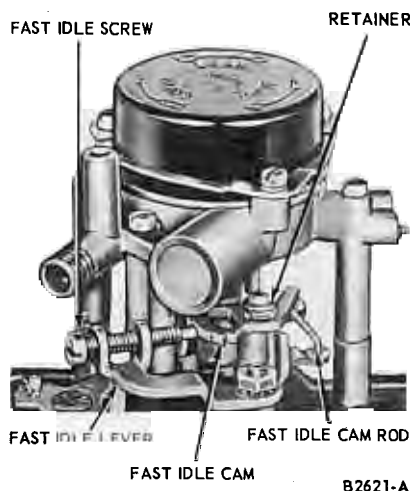

FIG. 15—Fast Idle Cam and Fast Idle Lever
1. Remove the fast idle cam retainer (Fig. 15).
2. Remove the thermostatic choke spring housing retaining screws, and remove the clamp, housing and gasket (Fig. 15).
nut (Fig. 15). On an automatic choke equipped carburetor, do not install the fast idle cam or retainer at this time.
13. Install the primary and secondary fuel inlet filters in the inlet valve seat mounting bores. Install the valve seats and gaskets (Fig. 19). Install the fuel inlet needle valves (Fig. 15).